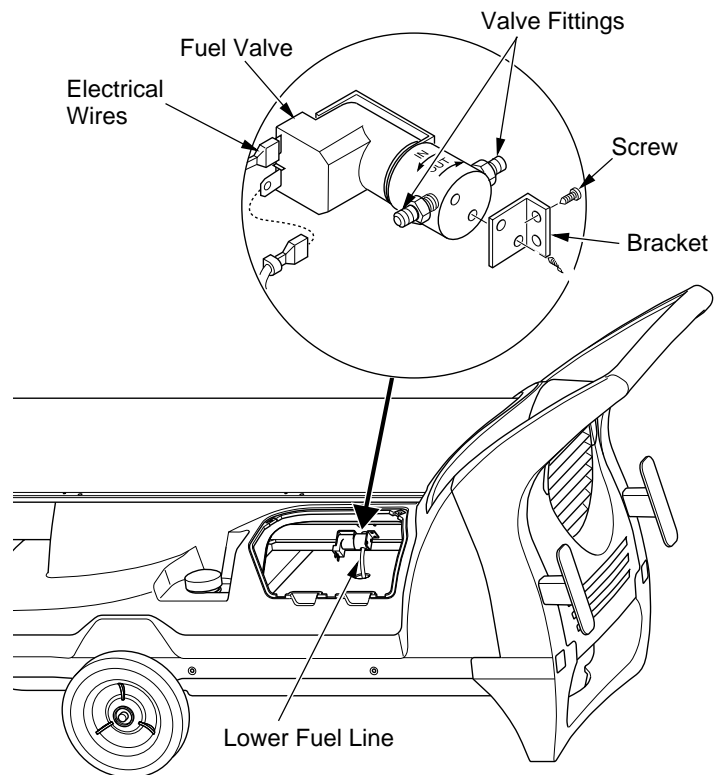

Figure 14 - Fuel Valve Replacement, 200VT Model Only
3. Pull lower fuel line off the fuel valve fitting (see Figure 14).
4. Disconnect red and white wires from fuel valve (see Figure 14).
5. Using 1/4" nut driver remove 2 screws holding fuel valve and bracket to lower shell (see Figure 14). Save these screws.
9. Connect red and white wires (polarity not important). Connect upper and lower fuel lines to fuel valve (see Figure 14).